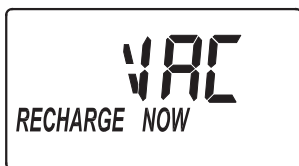

FIG. 21
1. Press and hold the CLEAN button for a few seconds, until "RECHARGE NOW" flashes in the display, as shown in Figure 21.